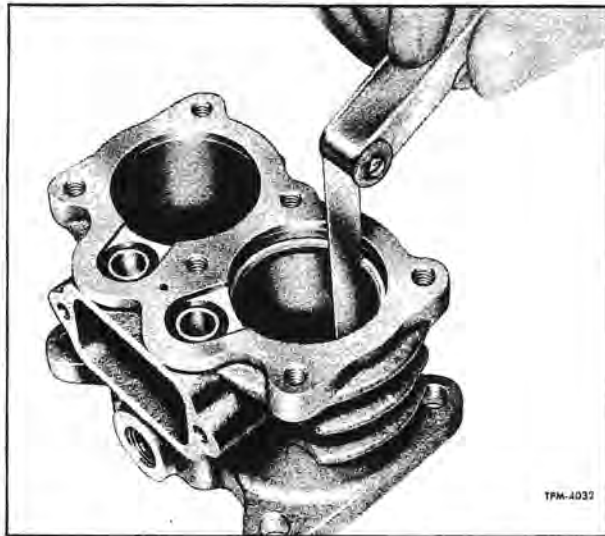

Figure 11—Measuring Piston Ring Gap
9. Piston Rings (Fig. 11). Check fit of piston rings in ring grooves, and check ring gap with ring in cylinder bore. Clearance between rings and